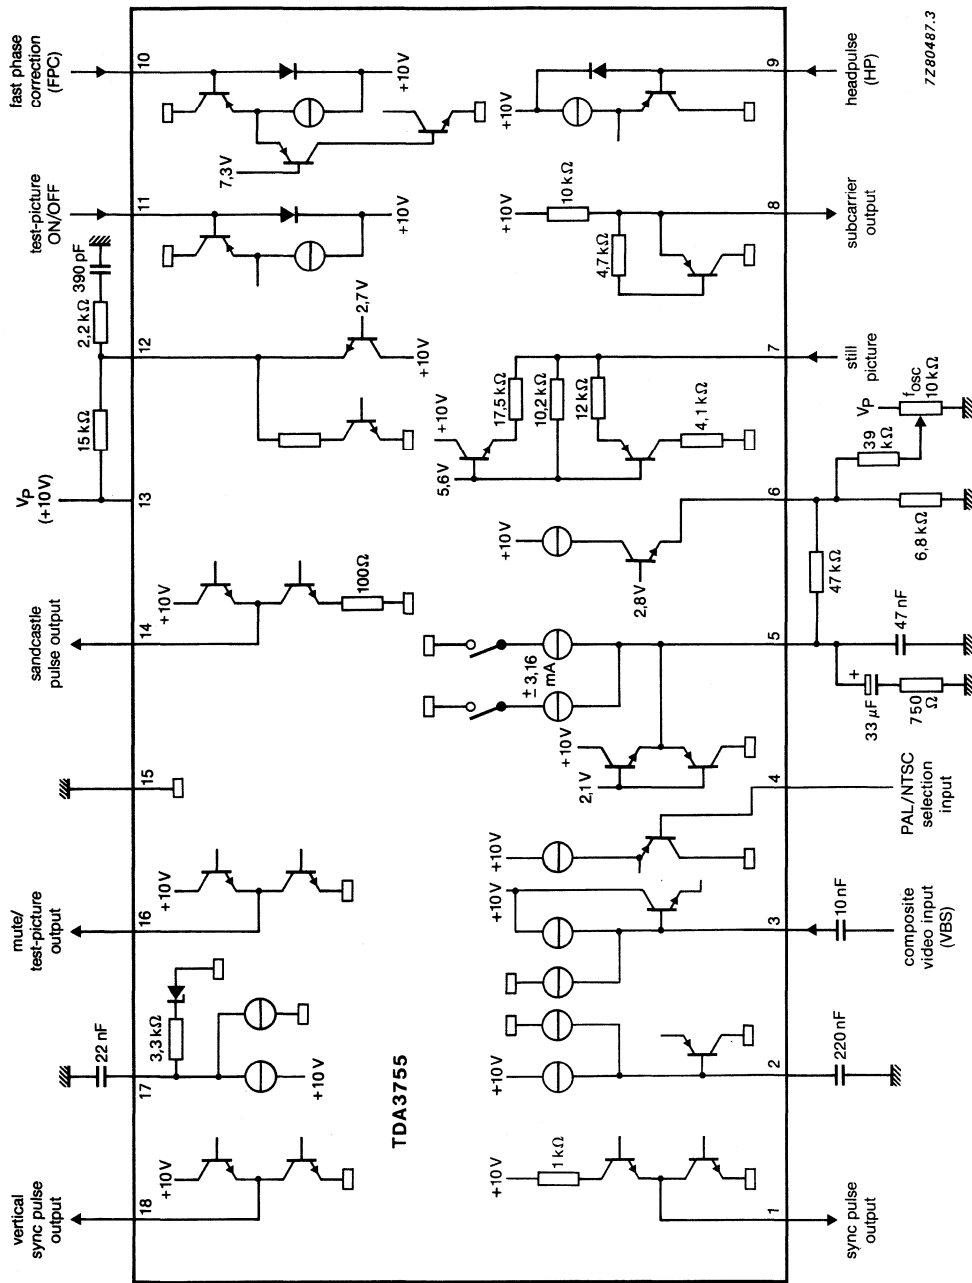

Fig. 4 Application circuit diagram.
$V_P = 10\text{ V}$; $T_{\text{amb}} = 25\text{ }^\circ\text{C}$; measured in Fig. 4; unless otherwise specified
10. The timing of the upper part of the sandcastle pulse is determined by the components connected to pin 12 (Fig. 4) and is independent of supply voltage variations.